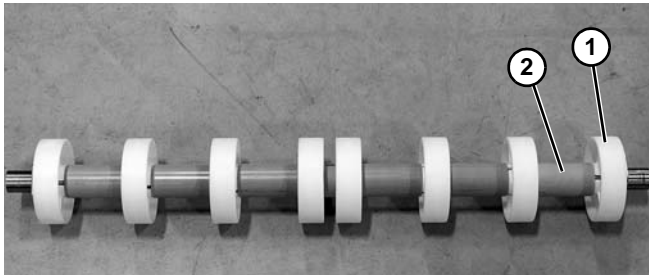

Figure 128
7. Remove pucks (**Figure 128, item 1**) and spacers (**Figure 128, item 2**) from the shaft. Repeat as needed.